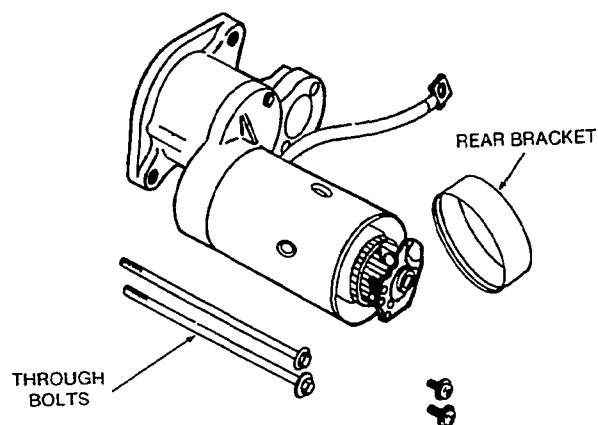

FIGURE 91. REMOVING REAR BRACKET
3. Remove the two through bolts and brush holder retaining screws. Remove rear bracket (Figure 91).